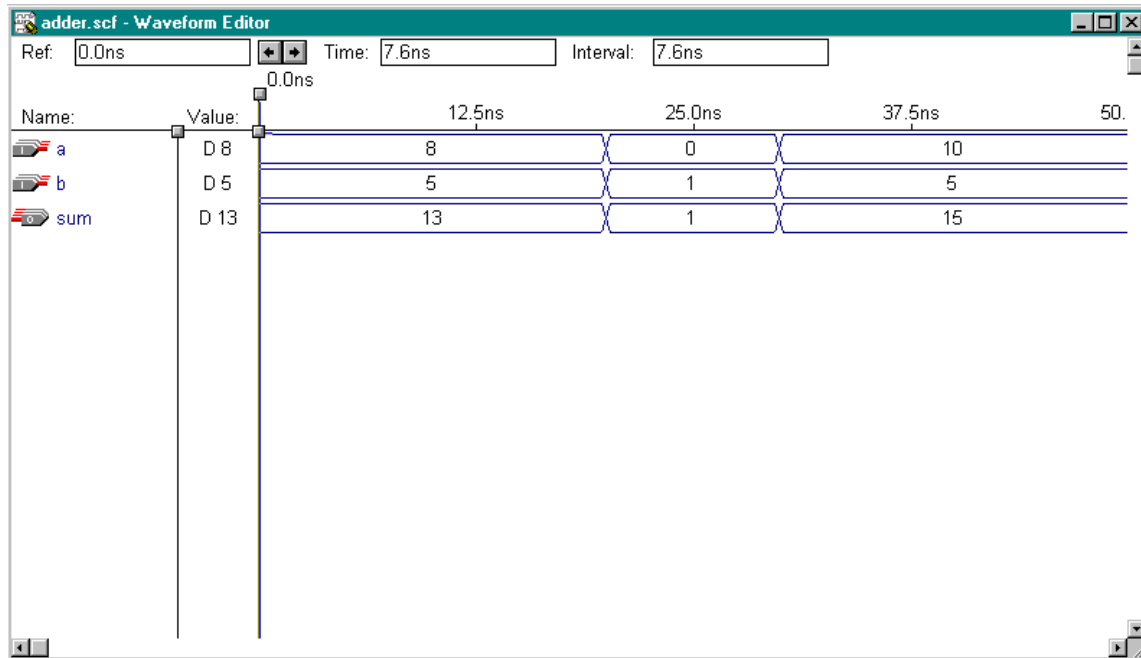

Figure 1-1b.
5. Check to see if you get the same results shown in Figure 1-1b.